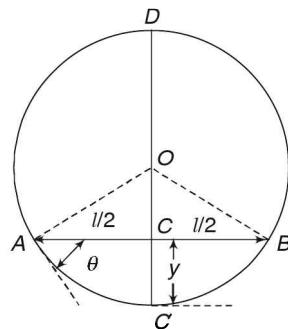

FIGURE 10.6 A beam being sagged.
1. On loading, the mid point of a beam is sagged/deflected (y) and also there is a slope (θ) at the end. In Figure 10.6 ACB beam is sagged to shape $AC'B$.